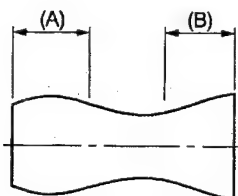

Fig. 2-1-82
4. If the (A) section in Fig. 2-1-82 does not meet the specifications, adjust the S guide roller in up or down direction.
5. If the (B) section in Fig. 2-1-82 does not meet the specifications, adjust T guide roller in up or down direction.